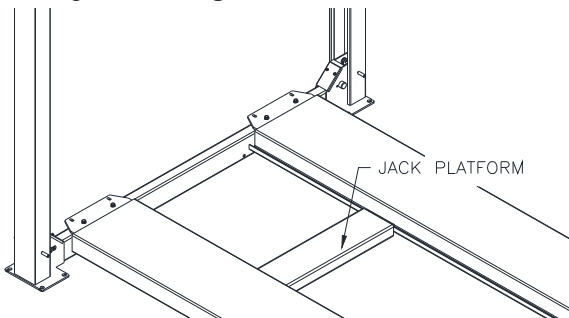

Fig 26 – Jack Platform
- 1) The Jack Platform rest on the jack rails between the runways. It can be positioned as needed along the rail, **Fig 26**.